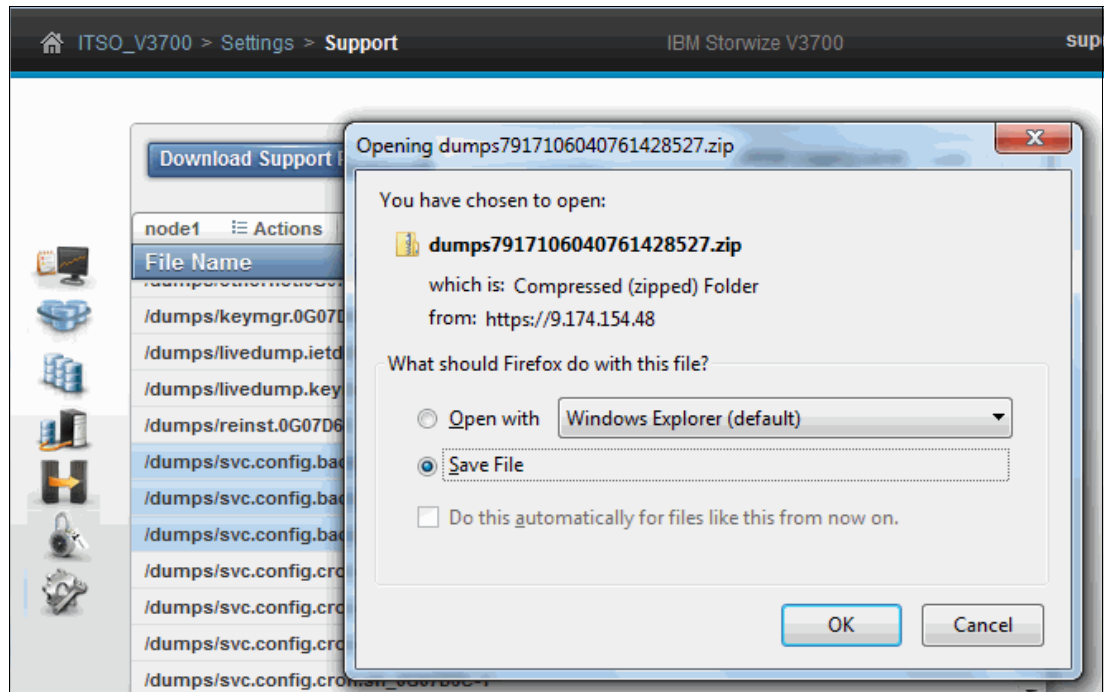

Figure 11-23 Configuration backup: Save File
5. Save the configuration backup files to your management workstation, as shown in Figure 11-23.